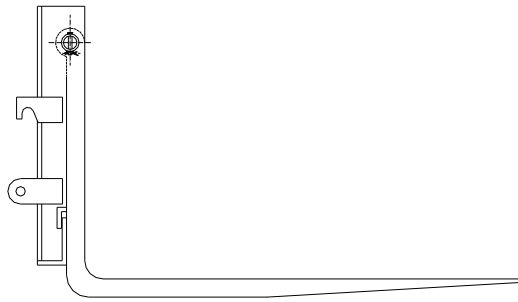

Fig.3-3 Sketch of pallet fork
3.1.3 Pallet fork (As shown in Fig. 3-3)